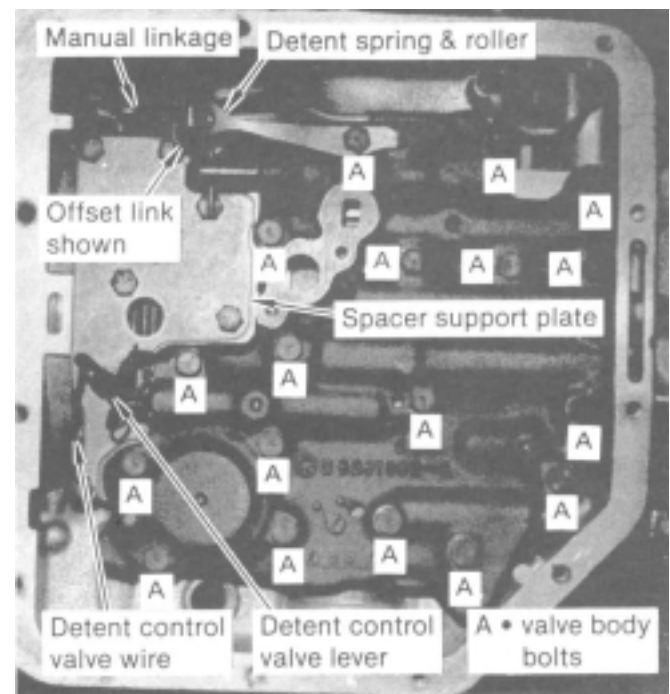
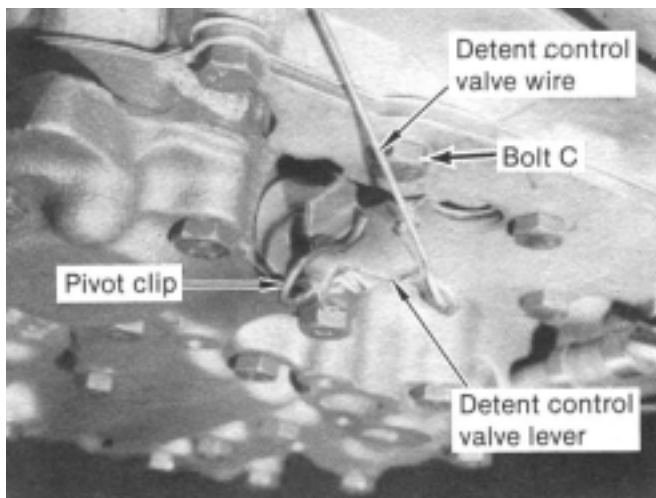

FIGURE 2
FIGURE 3
STEP 3. Observe the location of the following: (See Fig. 2) Manual linkage, detent spring and roller, S-link or offset link, detent control valve wire and lever, and support plate.
STEP 4. Remove pivot clip holding detent control valve lever in place. (See Fig. 3) Remove lever also and set them in the tray. Remove eighteen valve body attaching bolts. (See Fig. 2) Leave drain pan positioned as there is still oil between valve body and separator plate. Remove
STEP 5. Remove support plate bolts and support plate. (See Fig. 2) Remove stock separator plate, gaskets and four check balls. You will not reuse your stock separator plate. Leave drain pan positioned as there is still oil between separator plate and case. Check balls are between the plate and case. If front servo assembly falls out install it back in position with grease to retain it. Order of assembly is: spring, retainer, pin, washer and piston. See Fig. 5A,
STEP 14. Connect detent control valve lever to detent cable wire. Position lever on body. Install pivot clip. (See Fig. 3) if pivot clip contacts spacer support plate and does not fully seat into slot on detent control lever, trim pivot clip until just clears support plate. Detent control lever must pivot freely for correct operation. If detent control valve lever contacts bolt 'C' (See Fig. 3), Remove lever and file or grind clearance. Tighten screws securely.